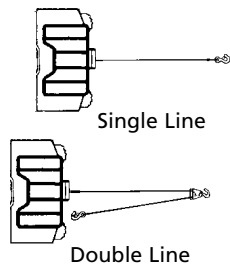

Figure 2
** All loads shown are for single-line operation. Double-line operation with optional pulley block (see Figure 2) approximately doubles capacity of winch.
1. Maximum working load capacity is on the wire rope layer closest to the drum. DO NOT OVERLOAD. DO NOT ATTEMPT PROLONGED PULLS AT HEAVY LOADS. Overloads can damage the winch and/or the wire rope and create unsafe operating conditions. FOR LOADS OVER 1,000 POUNDS (454 kg), WE RECOMMEND THE USE OF THE OPTIONAL PULLEY BLOCK TO DOUBLE LINE THE WIRE ROPE (Figure 2). This reduces the load on the winch and the strain on the wire rope by approximately 50%. Attach hook to load bearing part. **The vehicle engine should be running during winch operation.** If considerable winching is performed with the engine off, the battery may be too weak to restart the engine.